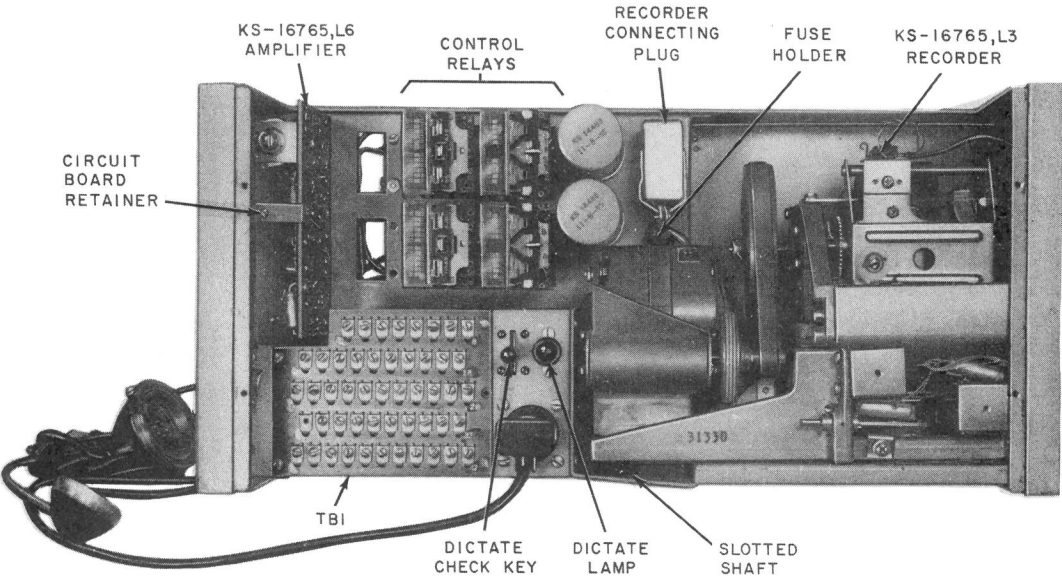

Fig. 4—KS-16765, List 2 Announcement Set, Front Cover Removed
- (c) Local control using the dictate-check key on the announcement set with an operator telephone set plugged into the telephone jacks (Fig. 4).